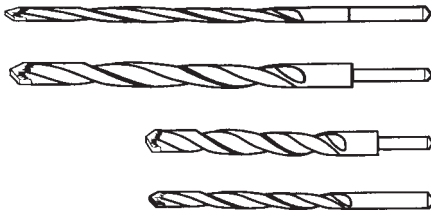

Figure 2.8 Masonry bits used for drilling holes in brick and concrete. (*Keedex Mfg.*)
- Drill bits, masonry assortment (Fig. 2.8)